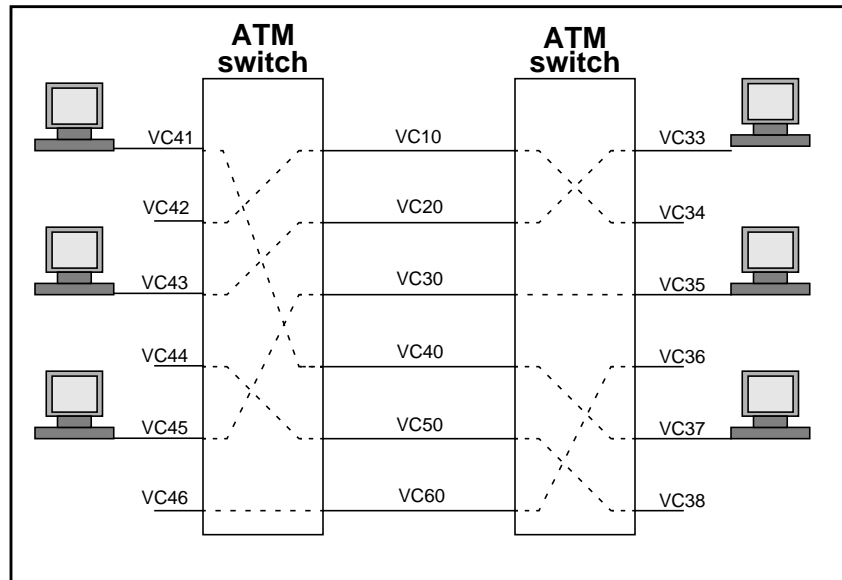

Figure C-2. Virtual Circuits
The Virtual Path (VP) creates groups of the VCs carried between the ATM entities, such as the ATM switches shown in Figure C-2. The VCs associated with a VP are globally switched without unbundling or processing the individual virtual circuits. Thus, the cell-carrying capacity of each VC is preserved, and the quality of service of the VP can be scaled to very high speeds.